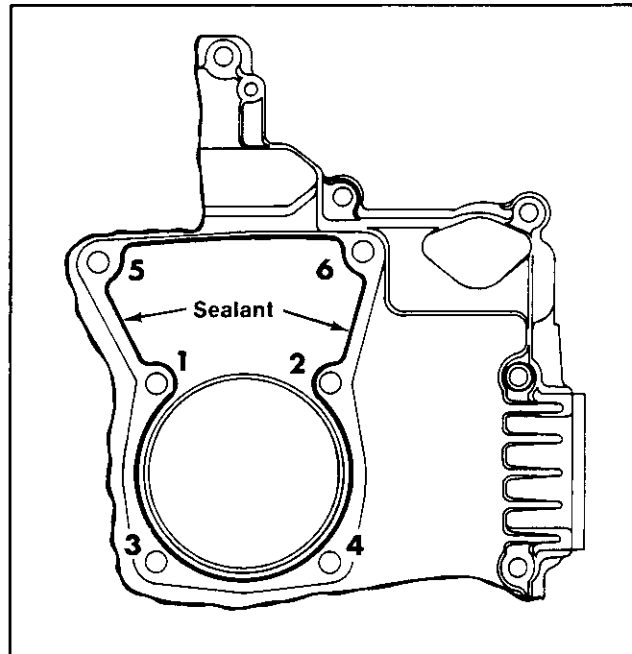

Figure 11-31. Cylinder Barrel Sealant Pattern/Cylinder Barrel Fastener Torque Sequence.
2. Apply a 1/16" bead of sealant to the **crankcase** as shown in Figure 11-31. Follow the sealant manufacturer's recommendations regarding setting.
6. Install the plain washers and hex nuts. Torque hex nuts #1 and #2 to **100 in. lb.** Torque the remaining hex nuts to **100 in. lb.** in the most expedient sequence. Refer to Figure 11-31.